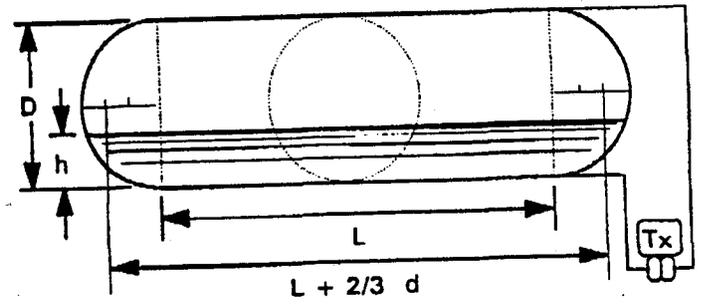

Fig. 5b
- b) Cylindrical vessel with hemispherical ends (see Fig. 5b). Transmitter measuring the whole vessel height.